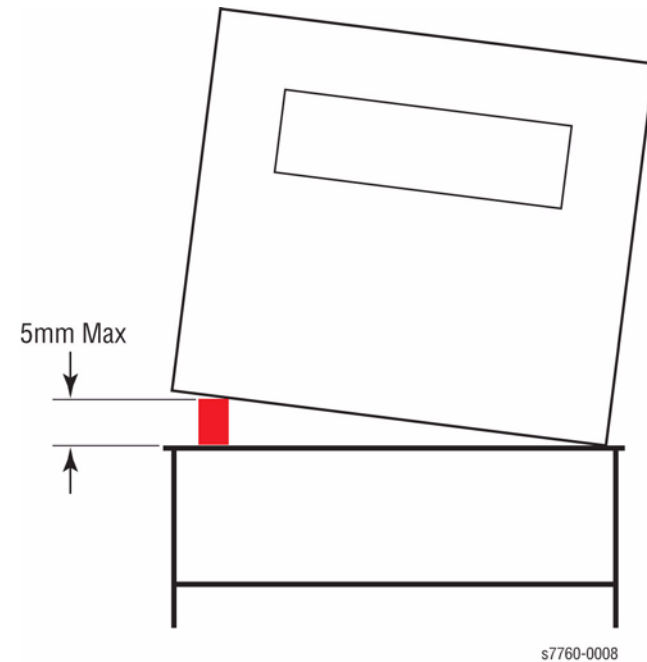

Figure 5 Maximum Dimension for Tilting or Tipping
3. The printer must not be tipped or tilted more than 5 mm as in Figure 5.